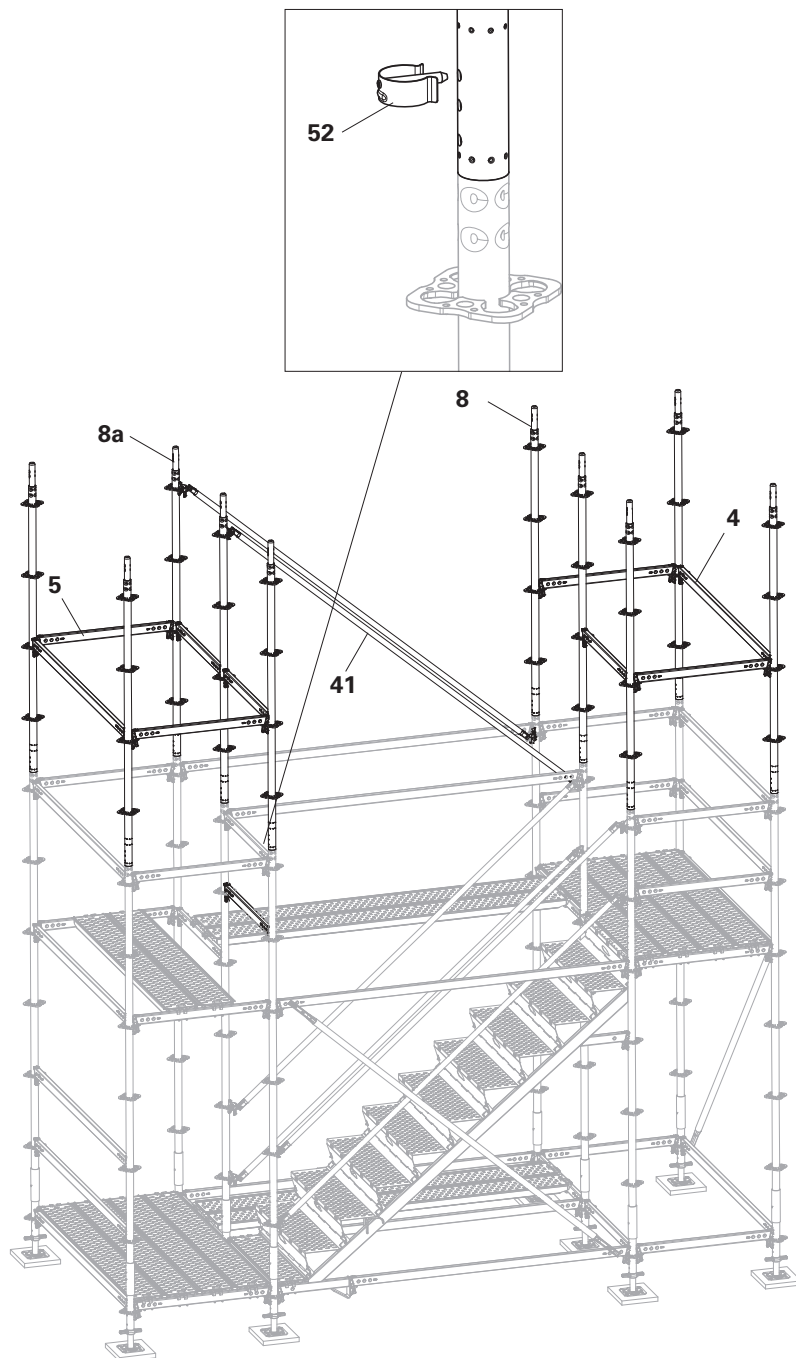

Fig. A3.01
4. Hook in the Horizontal Ledgers UH-2 200 and UH-2 100 (**4 + 5**) and knock them in tight. (Fig. A3.01)